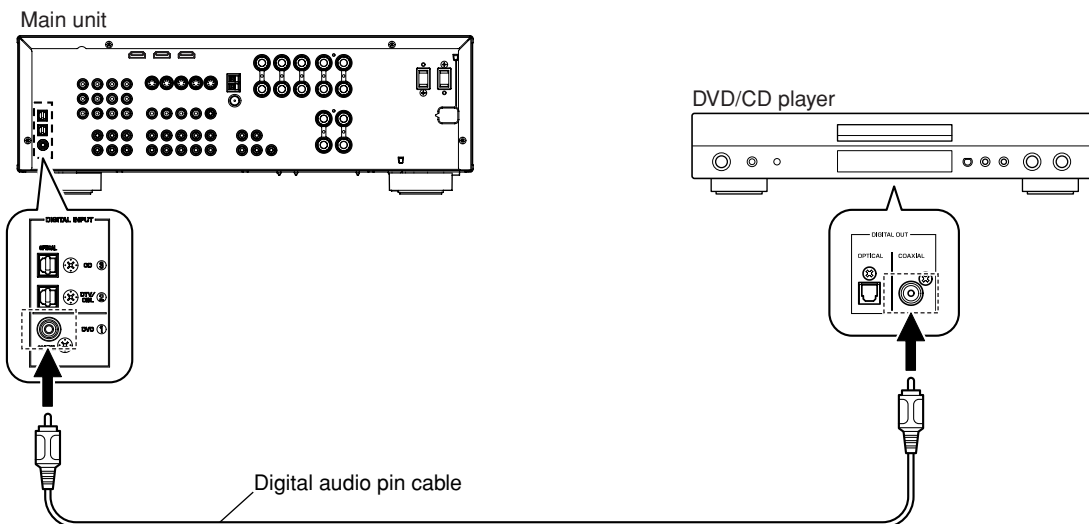

Fig. 1
1. Connect the main unit and DVD/CD player as shown below. (Fig. 1)